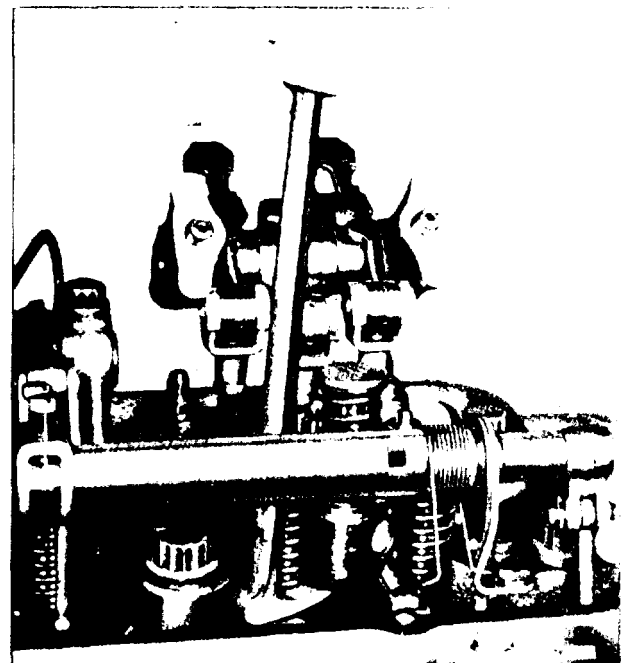

Fig. 7- Removing Injector from Cylinder Head
4. Remove the two rocker shaft bracket bolts and swing the rocker arms away from the injector and valves (Fig. 7).
7. Lift the injector from its seat in the cylinder head (Fig. 7).